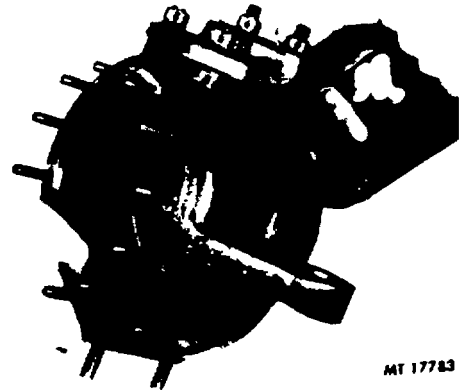

Fig. 7. Removing Trunnion Housing
The lower trunnion bearing will lay loose on bottom of trunnion housing when lower trunnion cap is removed. Remove lower trunnion bearing by pulling trunnion housing away from axle housing to provide access to bearing as shown in Figure 7.
7. Remove trunnion housing from axle housing by tilting bottom of trunnion housing out and pulling housing upward (Fig. 7).